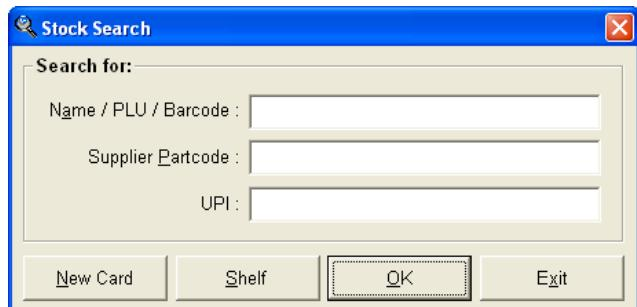

Figure 148
2. The 'Stock Search' prompt will display (as shown in Figure 148).